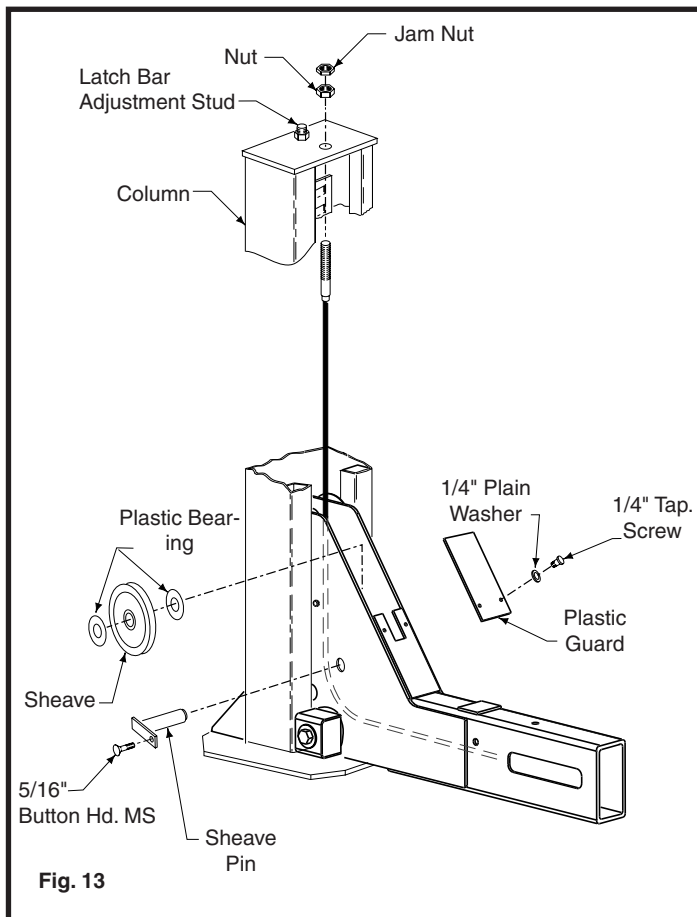

Fig. 13
10. **Front Sheave Install:** Install yoke end sheaves and plastic bearings. A plastic bearing is placed between each side of the sheave and the sheave spacers, Fig. 13, also refer to inset in Fig. 9. Retain with sheave pin and 5/16" button head machine screw. Be sure cable is located in the sheave groove.
11. **Cable Install:** Attach each cable to column top plate with nut, jam nut, and washer, Fig. 13. Install rubber sheave guard on each yoke end.